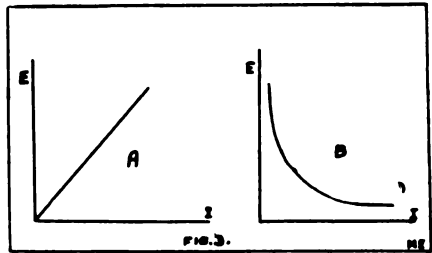

Fig. 3.
where a and b are constants. Now, if equation (1) be plotted (Fig. 3.A) we obtain a straight line, while if equation (2) be plotted a curve of the form shown in Fig. 3.B is obtained. This second curve is the static characteristic of the arc. It will be noted that for an increase in current (I) the voltage (E) falls. The curve is then known as a *falling* characteristic, and the behavior of an arc is thus seen to be entirely opposite to the behavior of an ordinary conductor (in which current and voltage rise or fall together).